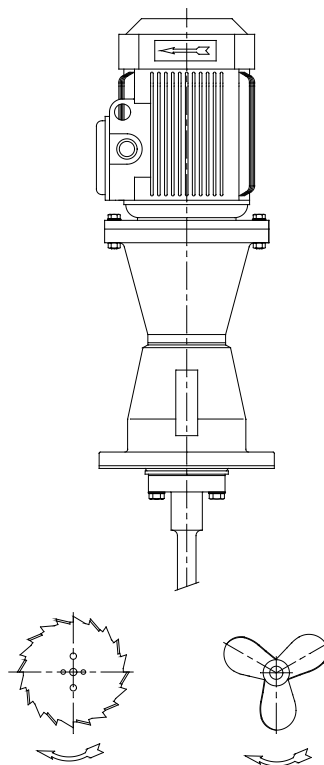

Figure 5.1
- Check that the rotation of the propeller is correct (clockwise when viewed from the side of the motor). See figure 5.1.